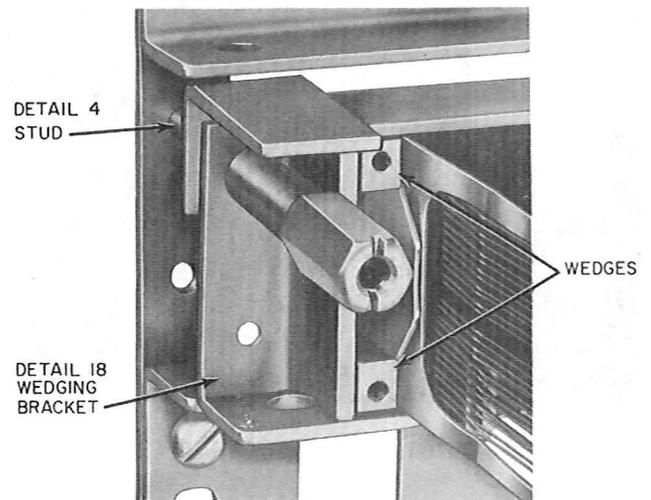

Fig. 19—Detail 18 Wedging Support on Detail 4 Stud
- (a) Place Detail 18 wedging bracket on Detail 4 stud and then fasten Detail 2 spacer nut as shown in Fig. 19.
the spring and the Detail 18 wedging bracket on the top and bottom. See Fig. 19.